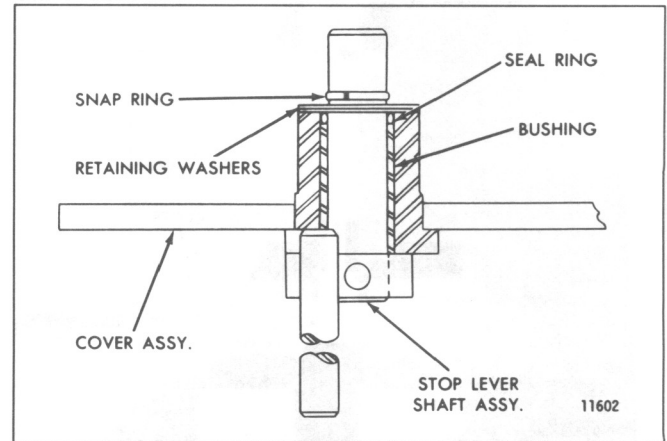

Fig. 4 - Cross Section of Governor Cover Assembly
1. Disassemble the governor cover as follows (Fig. 4):